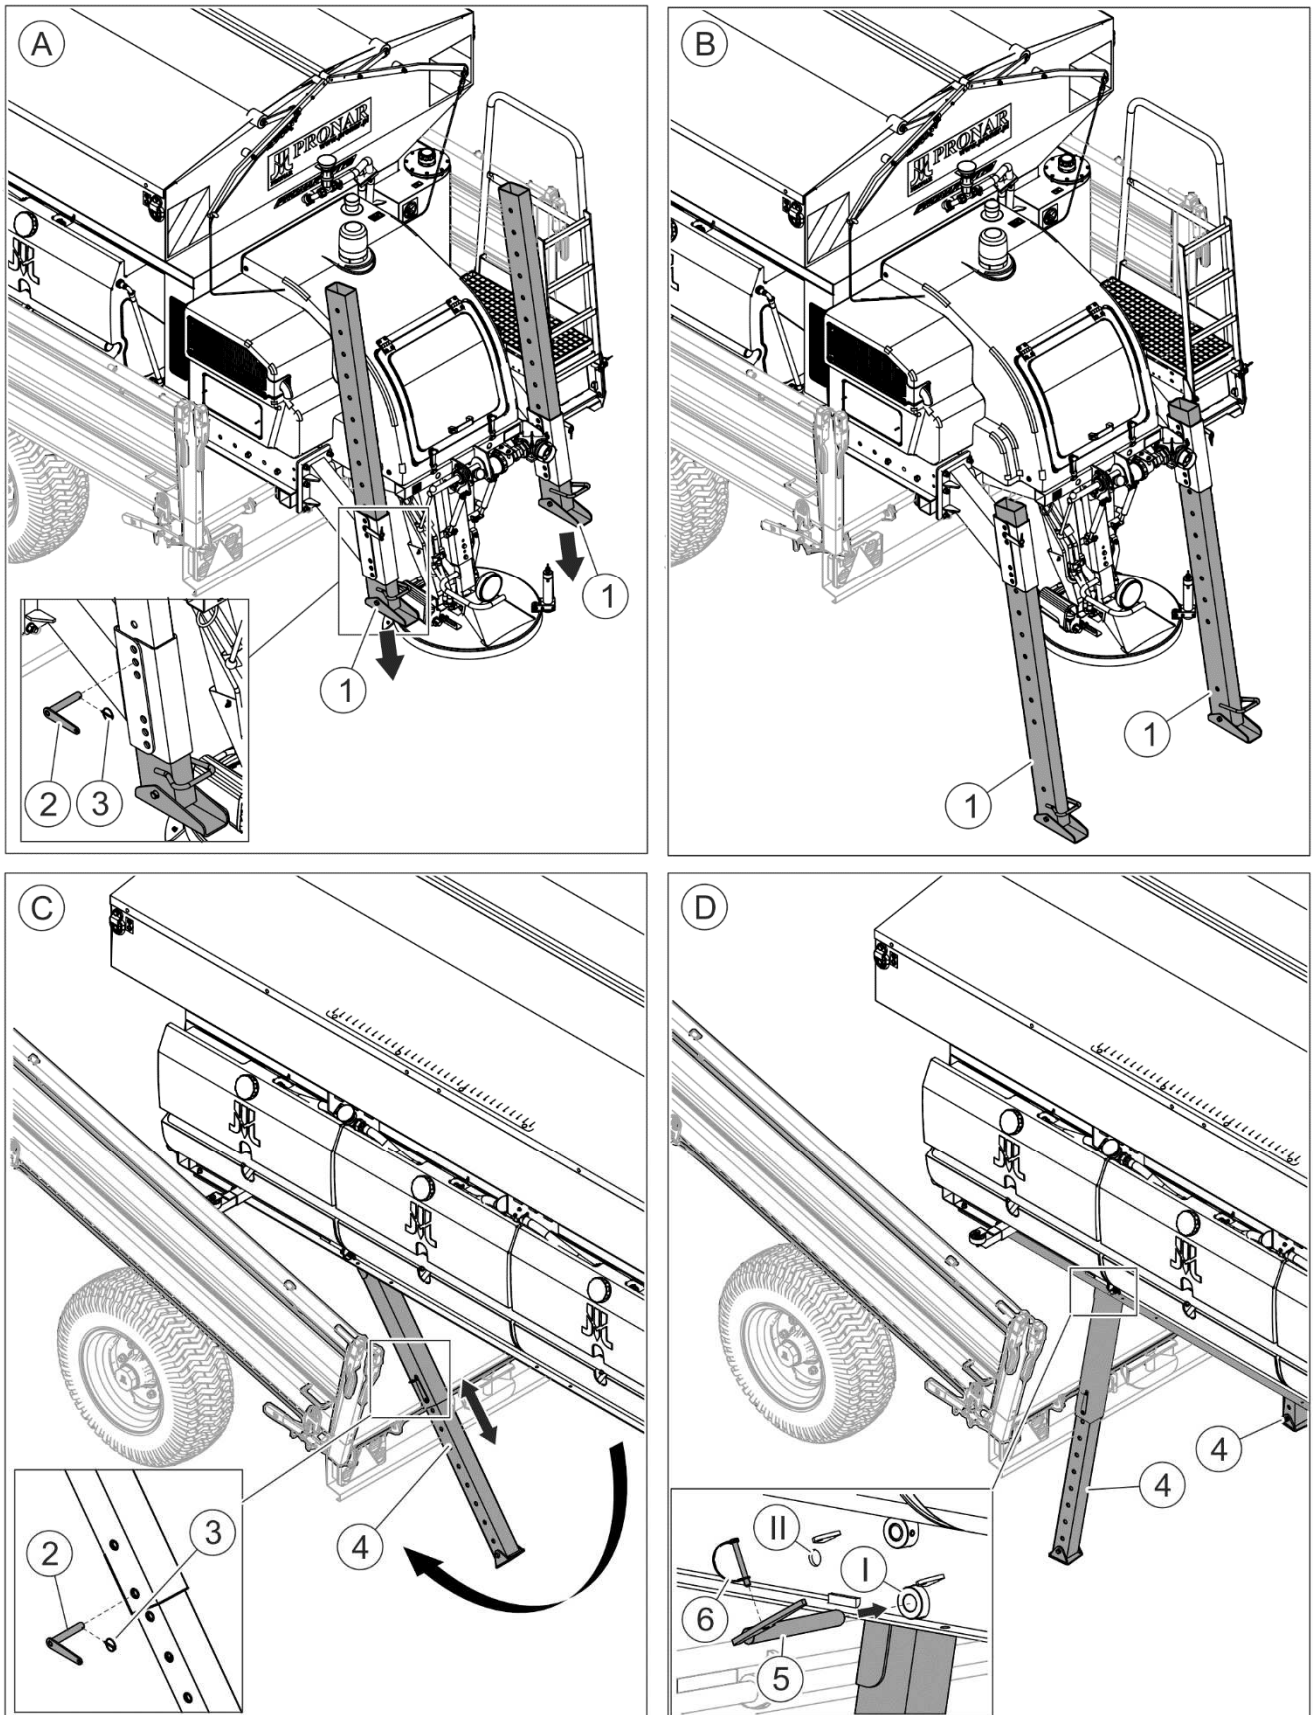

FIGURE 4.33 Dismounting the machine
- Unlock cotter pins (3), remove pins (2), lower the rear parking stands (1) so that they touch the ground and secure them again in a selected position (A- FIGURE 4.33).